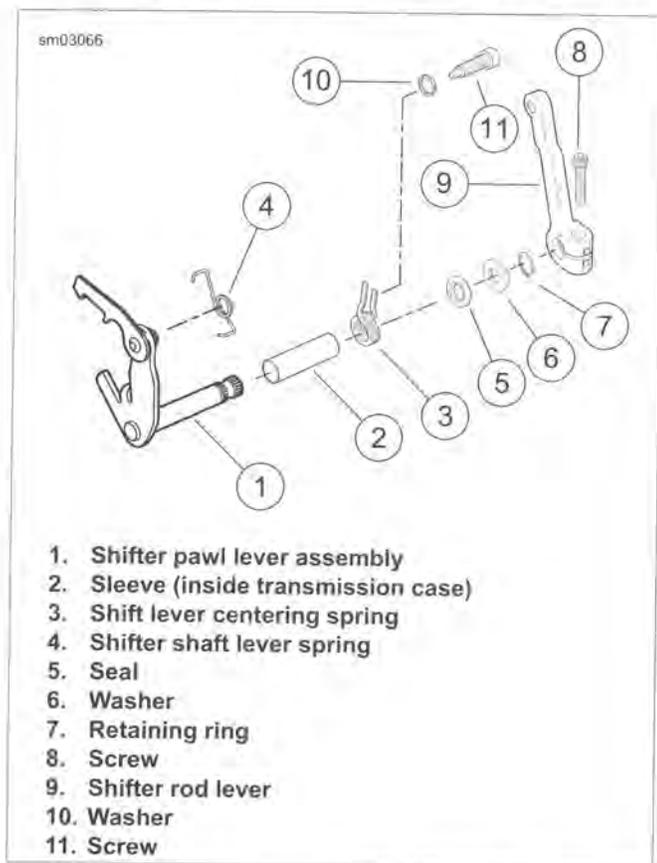

Figure 6-58. Shifter Arm Assembly
1. See Figure 6-58. After removing bearing housing assembly, remove screw (8) and shifter rod lever (9) from the shifter pawl lever assembly (1).
2. Remove retaining ring (7), washer (6) and seal (5). Discard retaining ring and seal. Pull shifter pawl lever assembly out of the transmission case.
3. Inspect sleeve (2) inside transmission case.
2. See Figure 6-58. Inspect the shifter pawl lever assembly (1) for wear. Replace assembly if pawl ends are damaged. Replace centering spring (3) if elongated.
3. Inspect the shifter spring (4). Replace if the spring fails to hold the pawl on the cam pins.
1. See Figure 6-58. Verify that sleeve (2) is inside transmission case.
2. Install screw (11) and washer (10) into side of transmission case. Tighten to 18-23 ft-lbs (24.4-31.2 Nm).
9. See Figure 6-58. Install shifter rod lever (9) on the shifter pawl lever assembly shaft end using screw (8). Tighten to 18-22 ft-lbs (24.4-29.8 Nm).